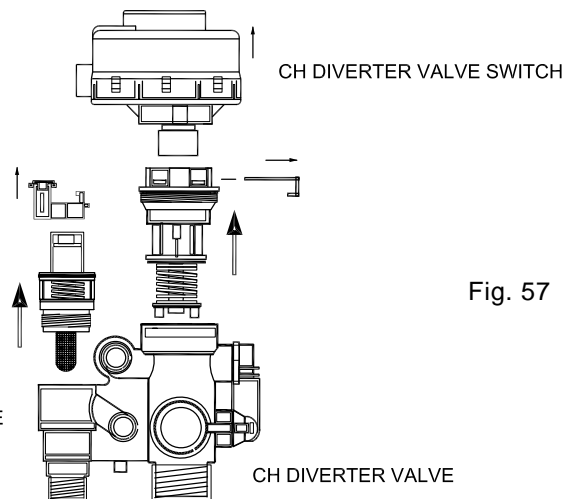

Fig. 57
**7.21.2** Detach the electrical plug and remove the retaining clip (Fig.57).
**7.23 TO REMOVE/REPLACE C.H. DIVERTER VALVE (fig. 57).**
**7.24.1 TO REMOVE/REPLACE DHW DIVERTER VALVE (fig. 57).**